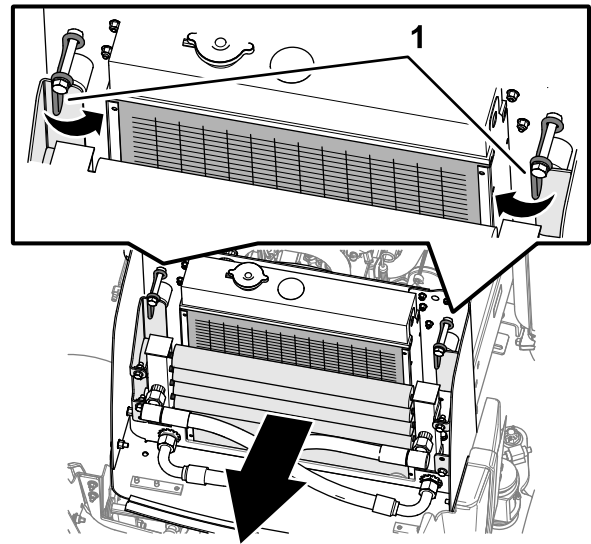
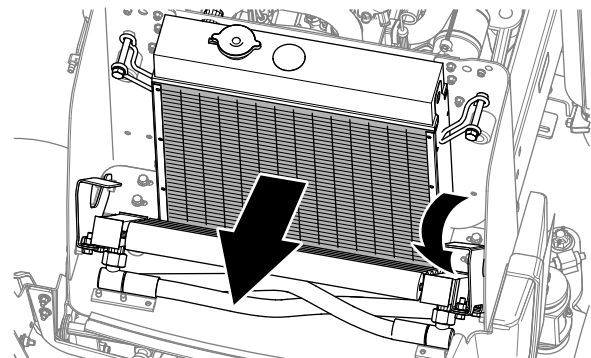

Figure 78
Figure 79
6. Clean the oil cooler with low-pressure (50 psi) compressed air (Figure 78).
7. Rotate the oil cooler latches inward, and pivot the oil cooler (Figure 78 and Figure 79).
8. Working from the fan side of the radiator , blow out debris with low-pressure (50 psi) compressed air (Figure 79). Repeat this step at the front of the radiator, and again from the fan side. Thoroughly clean both sides of the oil cooler.